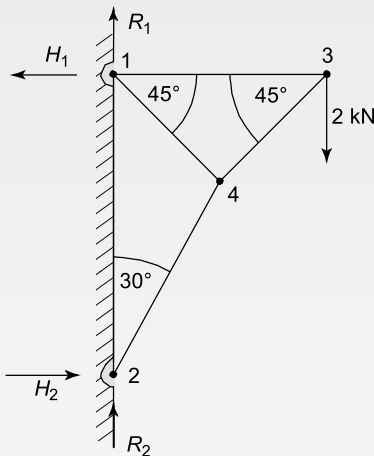

Figure RT3.2
- Determine the unknown internal forces in the pin-jointed truss of Figure RT3.2.